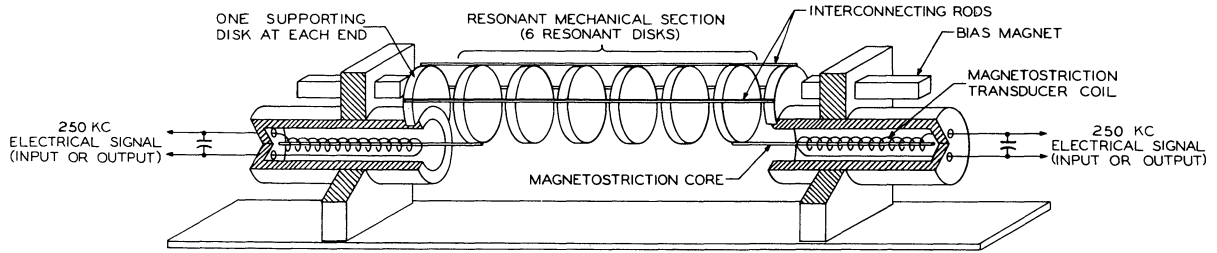

Figure 4-30. 250 Kc I-F Amplifier, Mechanical Filter, Functional Diagram
4.9.6.2 MECHANICAL FILTER. Refer to figure 4-30. The mechanical filter, FL901, utilizes the principle of magnetostriction to convert oscillating magnetic energy to mechanical vibrations. The magnetostriction transducer input coil is resonated at 250 kc. A nickel wire within this coil vibrates and transmits mechanical energy to the first of a series of nickel alloy disks. The mechanical vibration of